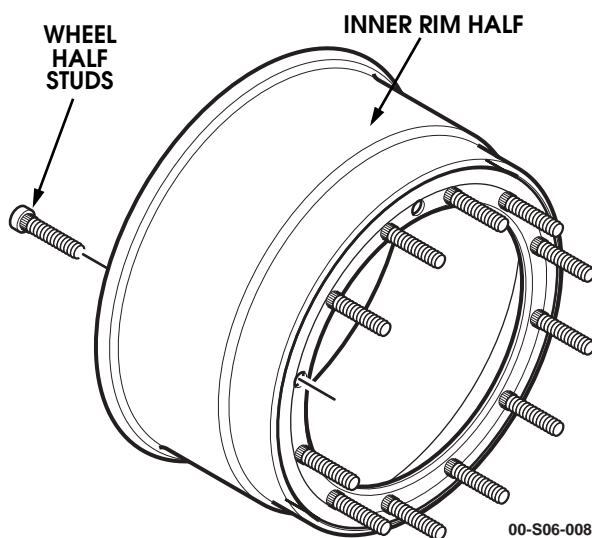

Figure 6-9: Inner Rim Half Stud Removal
1. If studs are damaged, drive studs out of inner rim half. Discard studs (Figure 6-9).